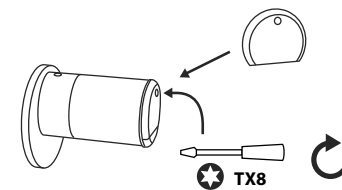

Fig. 4
- ④ Replace the front cover and screw it on tightly (Fig. 4).